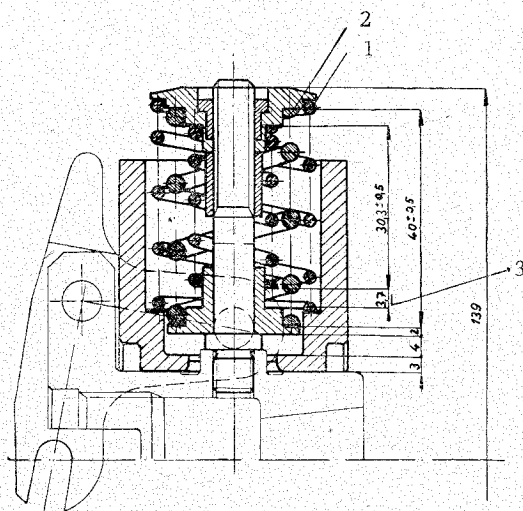

Fig. 40.
Prior to installing the weight springs on the shaft of the tester install adjusting shims and tighten the nut securing the top spring cup so that it is flush with the top face of the cup. If the adjustment of the speed governor is correct, only the outer spring (1) should be slightly loaded (approximately to a preload of 0.2 up 0.4 kg or .44 up to .88 lbs), while the centre spring (2) remains unloaded, having a clearance of 0.1 up to 0.3 mm or .004 up to .012", the inner one (3) having a clearance of 3 to 3.7 mm or .12 to .146". The correct clearance of the springs is essential for correct operation of the governor with regard to output, i. e. the governor must adapt the adjustment of the fuel injection pump to the varying load within the specified speed limits (see Fig. 40).